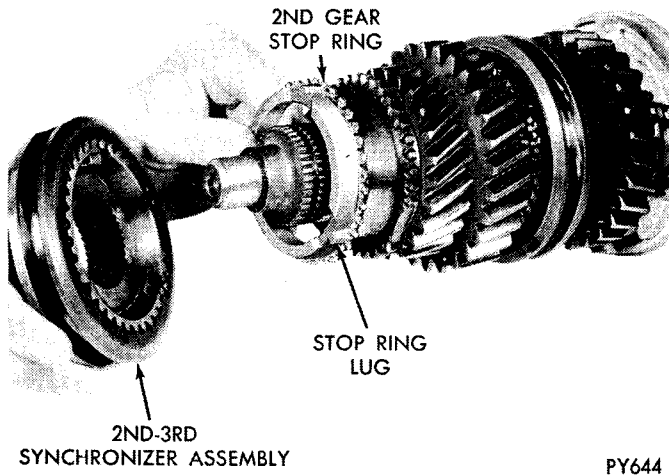

Fig. 16—Removal or Installation—2nd-3rd Synchronizer Assembly and Stop Ring
(2) Slide the 2nd-3rd synchronizer assembly off end of mainshaft along with the 2nd gear stop ring (Fig. 16).
(22) Install properly indexed stop ring and 2nd-3rd synchronizer assembly against second gear (Fig. 16).